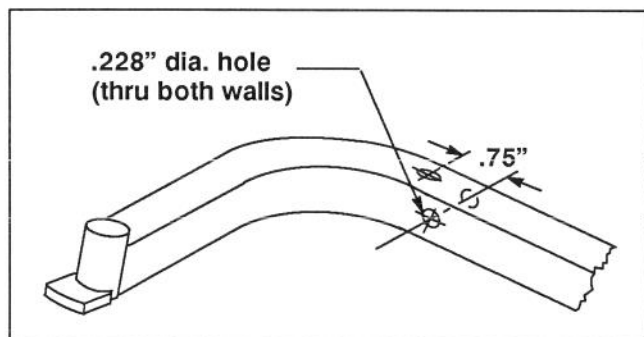

Figure 11
- Using dimensions shown in figure 11, locate, mark and drill a .228" dia. hole thru center of both walls in side of right lift arm.